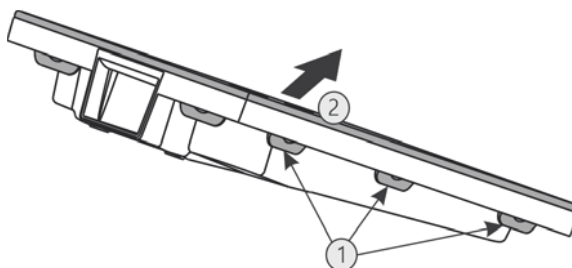

Fig. 40
- Press all lugs Fig. 40 (1) one after another and remove the cover Fig. 40 (2).